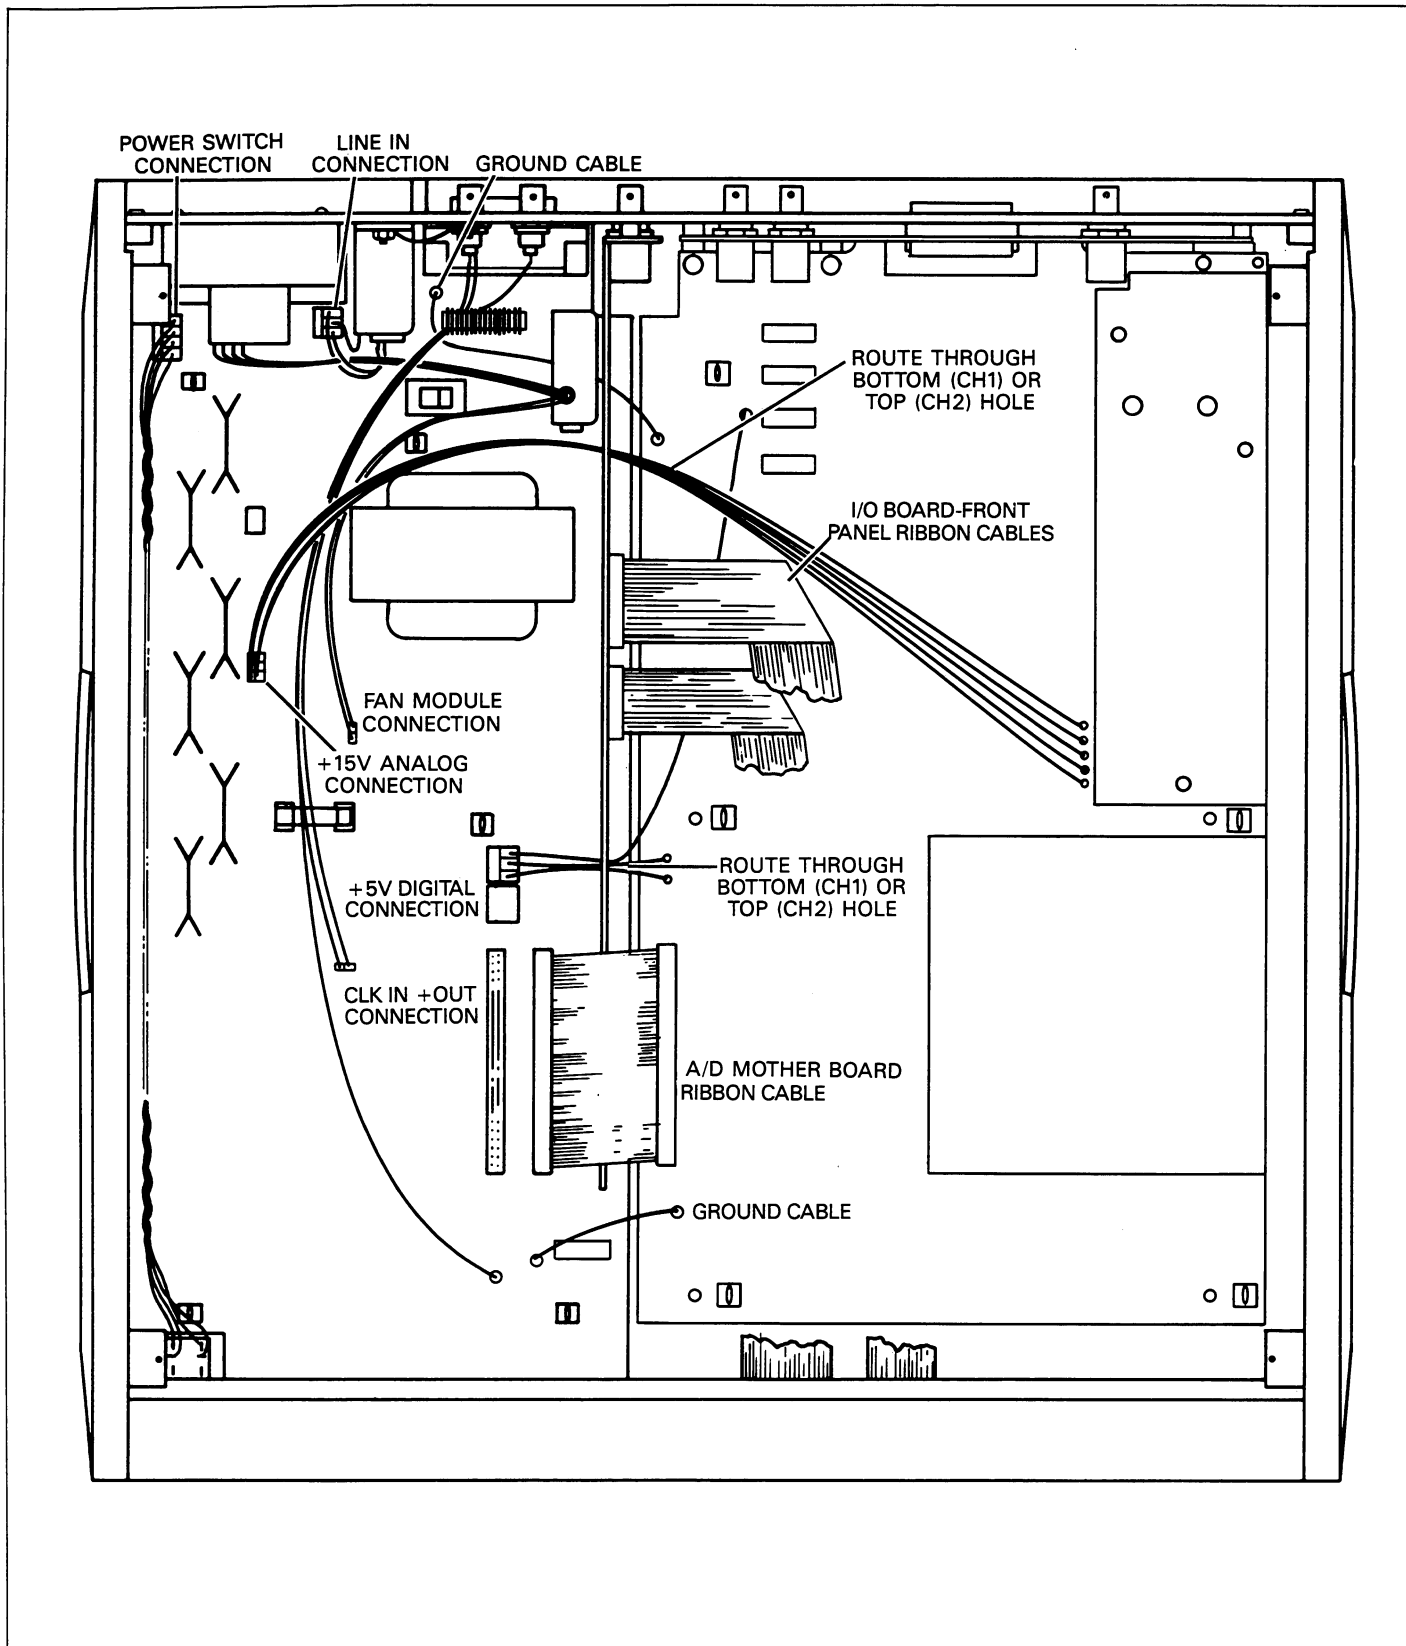

Figure 7-9. Cable Connections
Removal and replacement of the various circuit boards is covered below. The circuit boards should be removed in the order shown, and replaced in reverse order. General circuit board configuration is shown in Figure 7-8, and cable connections are shown in Figure 7-9.
2. Make sure that all connectors are properly replaced. Use the cable diagram in Figure 7-9 as a guide.